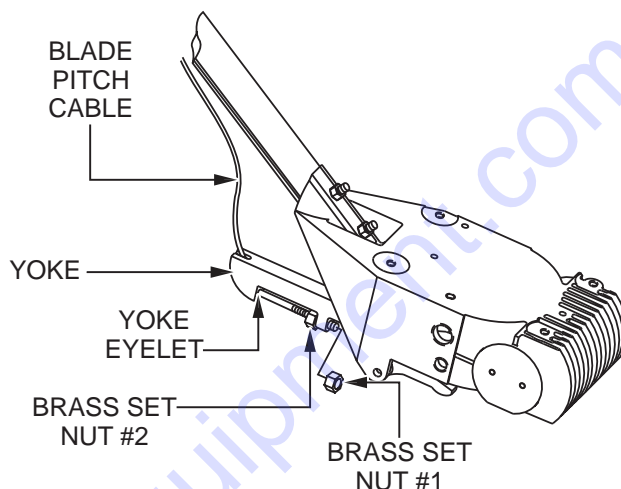

Figure 12. Cable Yoke Attachment
- Insert the blade pitch cable end through the yoke eyelet (Figure 12). Tighten brass set nut #1 by hand to remove all the slack from the cable.